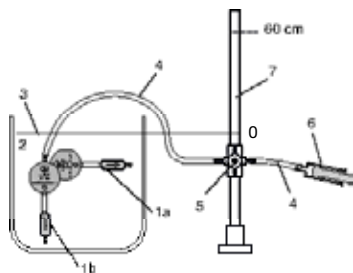

Fig. 20: Test setup
- Position the manometer and the water bath in such a way that the zero point of the manometer and the fluid level of the water bath are at the same height (see fig. 20).
- Connect the syringe, the manometer and the silicone tube with each other. Use the tube adapter if necessary. (see fig. 20)